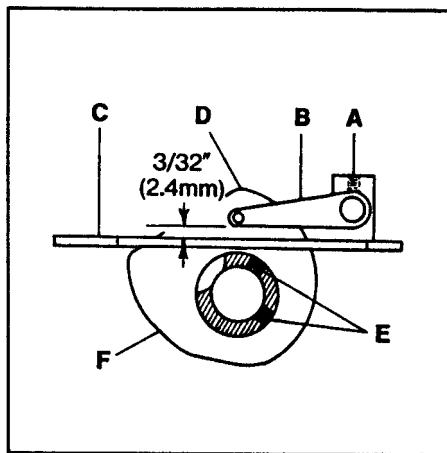

FIG. 35
Loosen screw (A, Fig. 35) and set the lower edge of cover thread take-up eyelet (B) so its  $3/32$ " (2.4mm) above the surface of cast-off plate (C). Tighten screw (A). As the cover thread hook moves to the left over the cover thread and the needle bar starts to rise, the cover thread must "cast-off" from the high point of take-up (D). Loosen screws (E) and adjust take-up (F) accordingly. Make sure that take-up (F) is centered in cast-off plate slot (C) and take-up eyelet (B) is centered to take-up (F). Tighten screws (E).